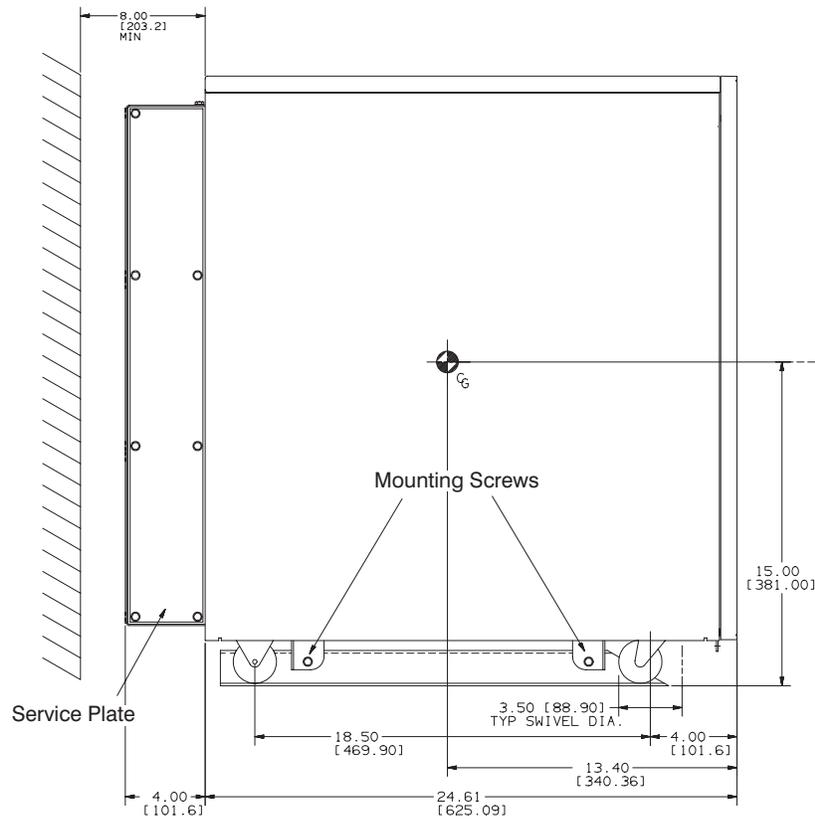

Figure 25. Mounting the UPS and I/O Cabinet
- Using the 5/16" bolts you took out when unloading each cabinet, bolt each cabinet to the mounting plate as shown in Figure 25.